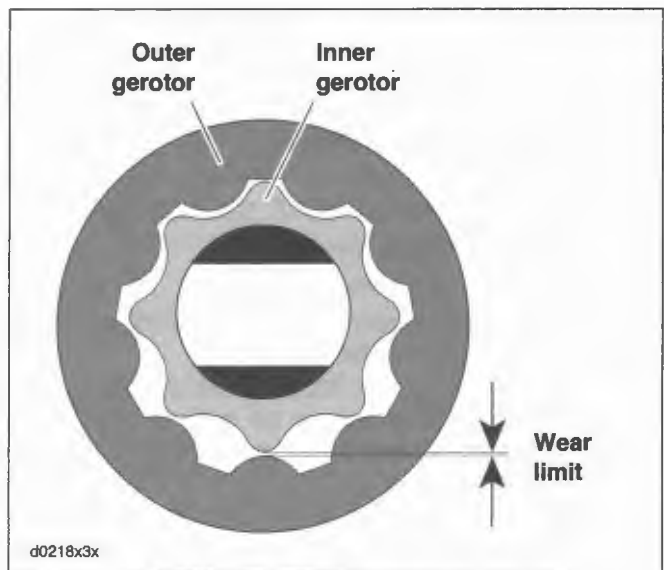

Figure 3-138. Measure Gerotor Sets for Wear
6. See Figure 3-138. Check gerotor wear.